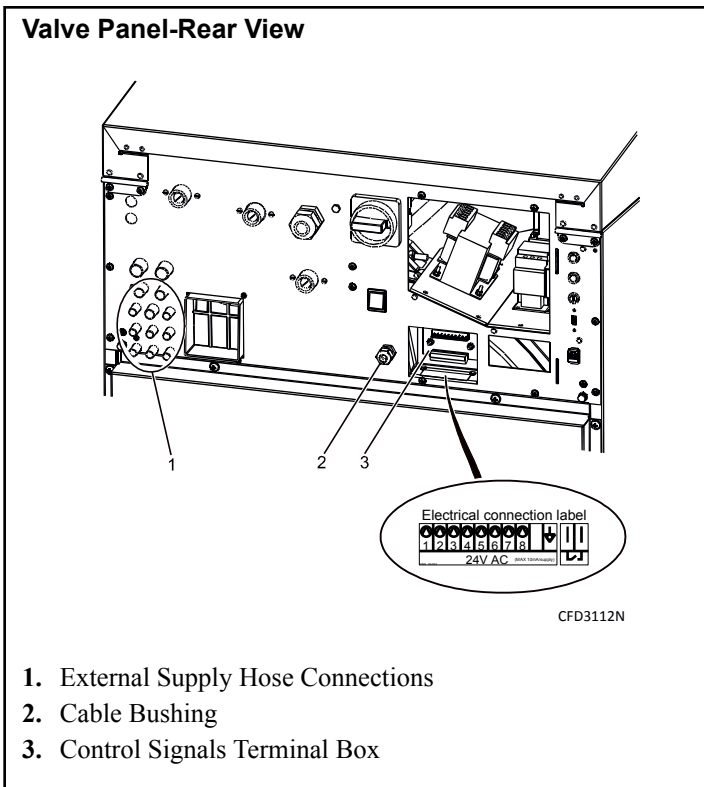

Figure 33
1. Facing the rear of the machine, locate the eight (8) 5/16 inch [8 mm] supply hose connections found on the left-hand side of the valve panel. Refer to *Figure 33* .
The electric connection for supply control signals is available on the rear panel. Refer to *Figure 33*. At the terminal box, there is a label for electric connection. Detail on connection of signals can also be found on the electric scheme of the machine.